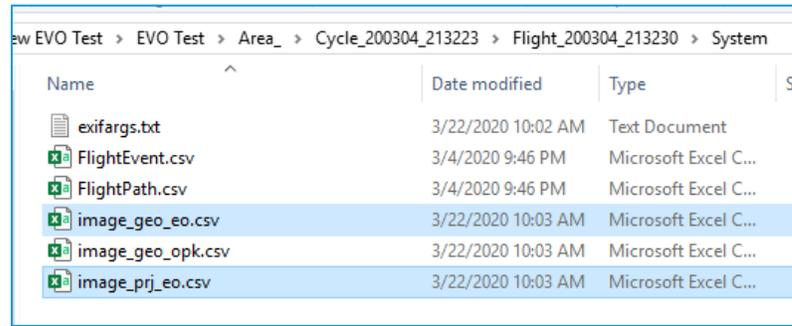

Figure 100 – Example Location of Image Position Files
- i. The CSV file named "Image_geo_eo.csv" (Figure 100) contains the image positions in geographic coordinates, height in meters. The orientation angles are yaw, pitch and roll in degrees.
- ii. The CSV file named "Image_proj_eo.csv" (Figure 100) contains the image positions in projected coordinates, height in project units. The orientation angles are yaw, pitch and roll in degrees.